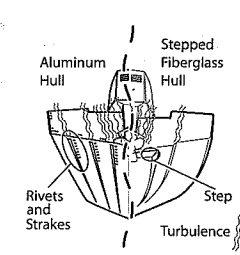
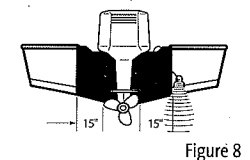

Figure 9
Figure 8
- It is very important to locate the transducer in an area which is relatively free of turbulent water. The best way to locate turbulence-free water is to view the transom while the boat is moving. This method is recommended if maximum high-speed operation is a high priority. If this is not possible, select a location on the transom where the hull forward of this location is smooth, flat and free of protrusions or ribs. As a boat moves through the water, turbulence is generated by the weight of the boat, and the thrust of the propeller(s) - either clockwise or counter-clockwise. This turbulent water is normally confined to areas immediately aft of ribs, strakes or rows of rivets on the bottom of the boat, and in the immediate area of the propeller(s) (Figure 9). Clockwise propellers create more turbulence on the port side. On outboard or inboard/outboard boats, it is best to locate the transducer at least 15" (380 mm) to the side of the propeller(s) (Figure 8).
- Observe the outside of the boat hull to find the areas that are mostly free from turbulent water. Avoid ribs, strakes and other protrusions, as these create turbulence (Figure 9).